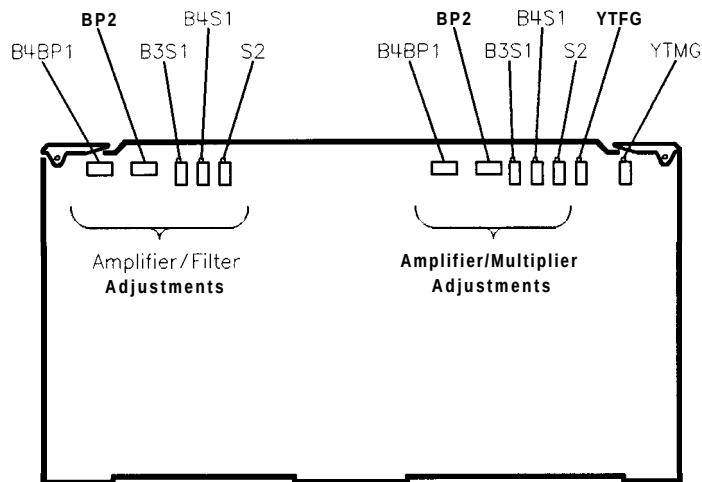

Figure 3-22. A12 Assembly Potentiometer Locations
3. Set A12R108 B3S1 fully clockwise (see Figure 3-22).
6. Adjust A12R108 B3S1 (see Figure 3-22) for maximum power over the rest of the sweep (3 to 10 divisions).